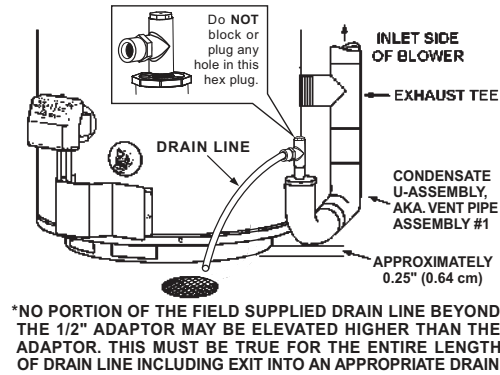
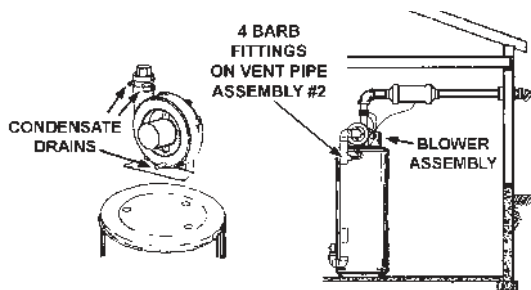

FIGURE 16.
FIGURE 17.
3. The blower discharge adapter is made to accept only straight sections of 2" pipe. To start, a minimum of 2 inches (5.1 cm) of 2" pipe must be attached to the blower discharge, see Figure 17.
4. There will be some installations where condensate will be formed in the horizontal runs of the vent system. This condensate will run into the condensate boot attached to the blower and out the fitting. The water heater is shipped with condensate hose that attaches to the fitting on the condensate boot. No other Tee or fitting is required. See Figures 17, 20 and 21.
This water heater is a condensing unit and requires a drain to be located in close proximity to allow condensate to drain safely. One hose from blower housing, two flexible hoses from blower outlet adaptor, along with another flexible hose from VAA if installed, run to barb fittings on vent pipe assembly #2. Hose is clamped by rubber clips and flexible hoses by a clamp on jacket top cover. See Figure 17. Condensate drains from the unit at the exhaust tee located at the bottom of the unit (see figure 16). Condensate from this water heater is mildly acidic. Please note that some local codes require that condensate is treated by using a pH neutralizing filter prior to disposal.
NOTE: It is important that the field supplied drain lines beyond the 1/2" adaptor of vent pipe assembly #1 should be installed continuously tilted downward toward an appropriate drain. See Figure 16. If these instructions are not followed or if condensate drain line is blocked, water will spill from condensate trap. Do not block the holes in the hex plug on top of a small tee in vent pipe assembly #1. As with every water heater installation, a drain pan should be used to prevent water damage to surrounding area. If necessary, a condensate pump with an incorporated reservoir may be used to pump water to an appropriate drain. To avoid condensate spillage, select a pump with an overflow switch.
Condensate is likely to form in the venting system attached to this water heater. The vent pipe should be sloped downward away from the blower assembly (not less than 1/8" (3.2 mm) nor greater than 1/2" (12.7 mm) per foot (30 cm) maximum). If the vent piping is vented level or sloped upwards away from the blower assembly, then adequate means for draining and disposing of the condensate needs to be made by the installer. Two 3/8" condensate hoses should be connected to the built in drain ports of blower outlet adaptor. If a VAA is installed, a 3/8" condensate hose should be connected to the barb fitting on it; otherwise the unused barb fitting on vent pipe assembly #2 should be plugged with one of the break-away plugs. See Figure 17.
3. Condensate drains from three locations on blower assembly. See Figure 17. One flexible hose runs from bottom of blower housing; two run from the ports of rubber connector at the outlet of blower. All these three condensate hoses are connected to barb fittings at vent pipe assembly #2. The hose from bottom of blower housing is clamped by two clamps and the two hoses from rubber connector are harnessed by another clamp. Make sure there is no kink or twist.